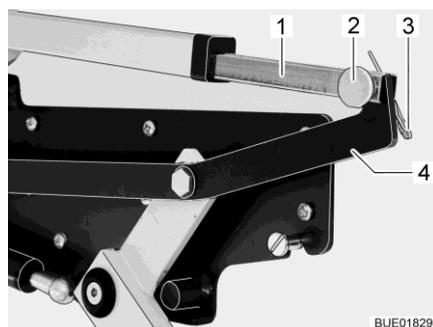

Fig. 143 Drive for the pull-down bed
- Release the connection between the push rod (Fig. 143,1) and lever (Fig. 143,4). To do this, pull out the splint (Fig. 143,3) and pin (Fig. 143,2).